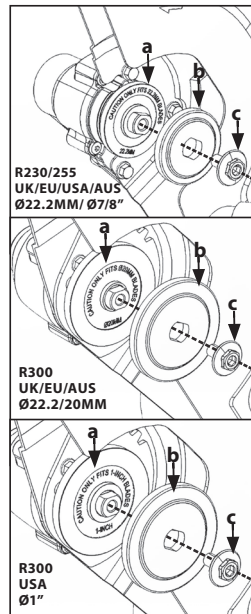

FIG. 1
- Install blade flange (a) on the inner side of the blade. (Fig. 1)
- Install the outer blade flange (b) and insert the arbor bolt (c) into the machines arbor, for your appropriate machine. (Fig. 1)